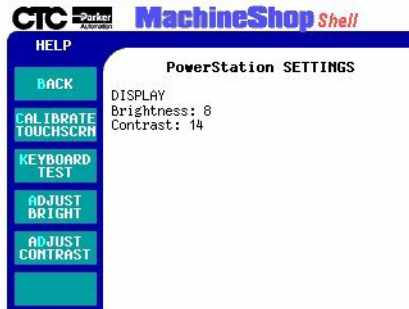

Figure 7 PowerStation Settings Menu
2. On the Settings submenu, press the PWRSTA button. The PowerStation Settings menu will appear as shown in *Figure 7*.